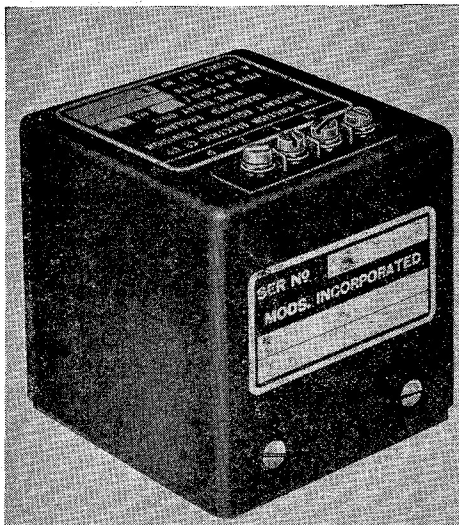

Fig. 1. Time delay unit, E.E. Type AE5630
2. Components are housed within a black nylon cover and an aluminium-alloy base plate, see general view of unit, fig. 1. A flat surface is presented by each side of the unit except the top side through which the terminals protrude and to which the nameplate is affixed. The specific time delay of the unit is shown in seconds on the nameplate by a number separated from the type number by a strike, e.g. "Type AE5630/1" indicates a time delay of 1.0 second.